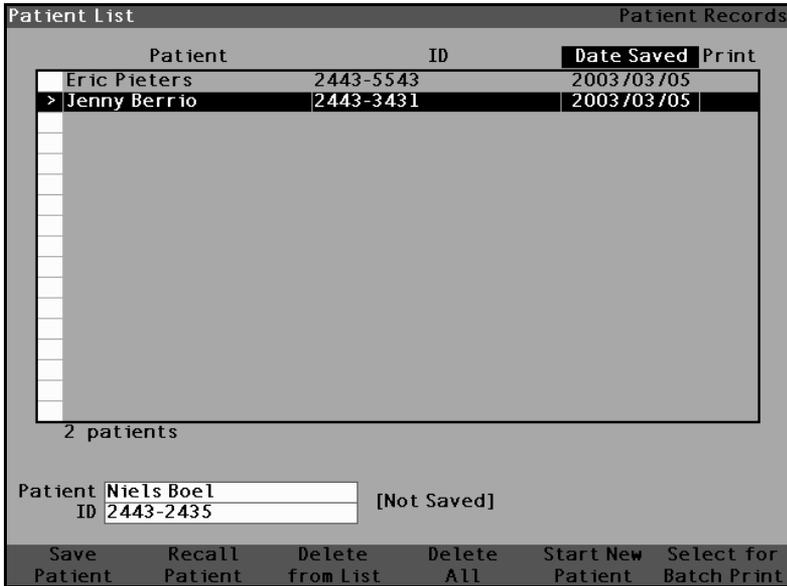

Figure 29 Patient Record Screen
1. Press the "Patient Records" button located to the right of the instrument (see Figure 17 on page 31). The instrument will display the Patient Record Screen as shown in Figure 29 below.